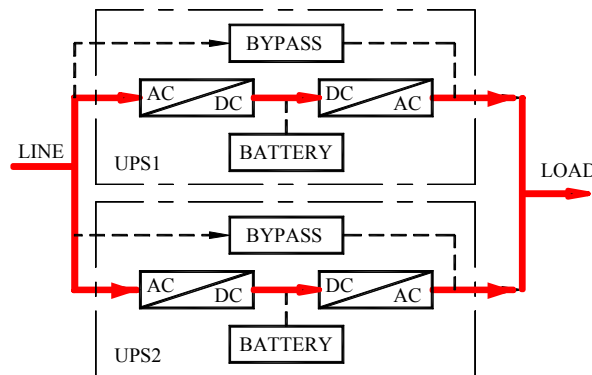

Figure 2-10 Working Mode in case of Proper External Power Supply
1. Working mode in case of proper external power supply (real lines refer to UPS's power passage), refer to figure 2-10